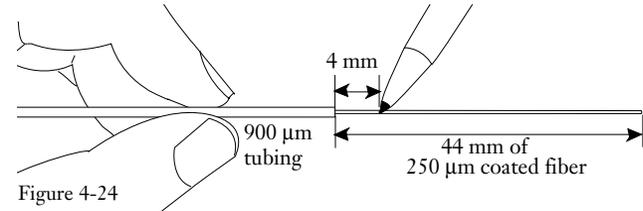

Figure 4-24
**4.6-3** Measure and mark the 250  $\mu\text{m}$ -coated fiber 4 mm from the end of the fan-out tube (Figure 4-24).